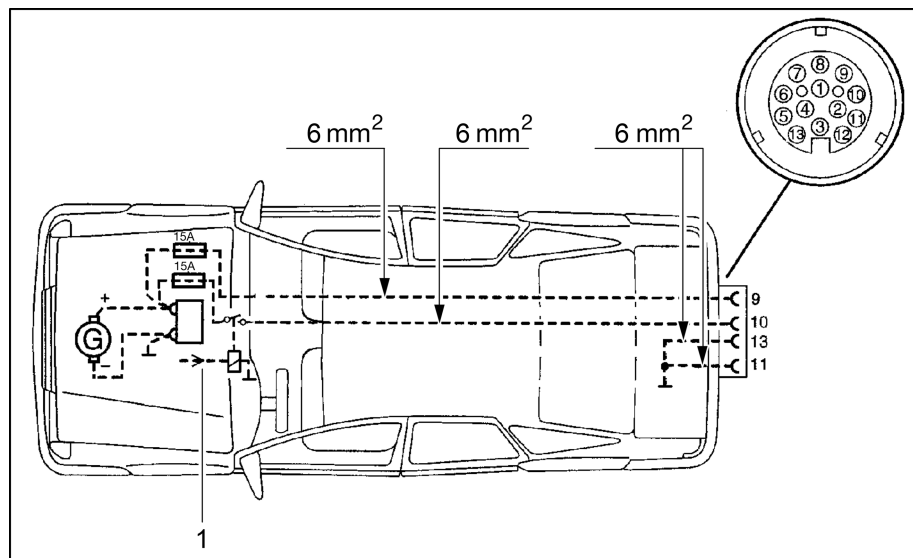

Fig. 99 Towing vehicle installation diagram
- ▷ The towing vehicle must be retrofitted with the corresponding cable cross sections and a relay for the power supply (controlled using the ignition) (see Fig. 99).